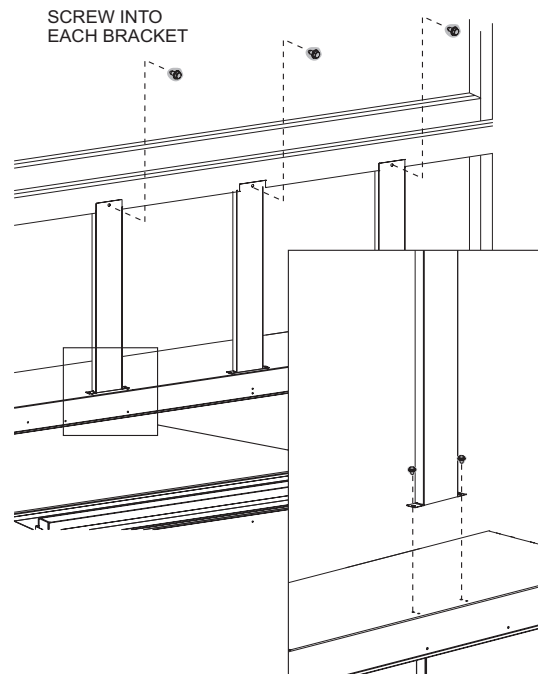

Figure 21 - OPTION 2
- 10b. **OPTION 2** - Secure standoff brackets with drywall screws to the framed opening above the fireplace as shown in **Figure 21.**